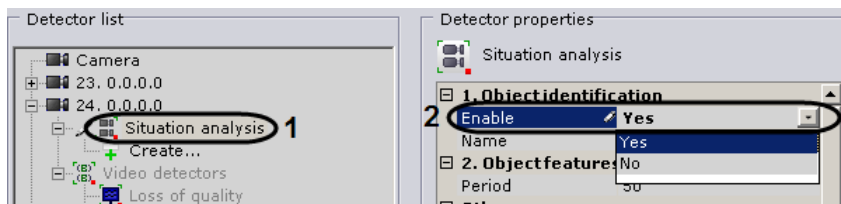

Fig. 6.5—1 Enabling situation analysis
1. In the detector list, highlight a **Situation analysis** object (Fig. 6.5—1, 1) which offers a means of analyzing the situation in the field of view of the desired video camera.
2. Select **Yes** from the **Enable** list (see Fig. 6.5—1, 2).